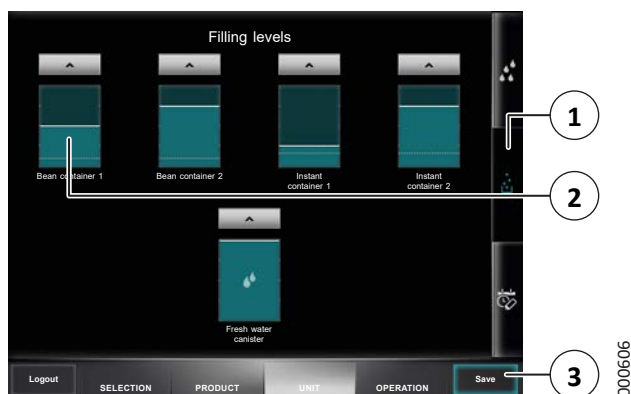

Fig. 32: Filling levels
4. The “Limit value” button (1) is used to set a percentage at which a warning is issued for the filling level.
5. Press the “Apply” button (3) to adopt the settings and return to the previous screen.
6. Save your changes using the “Save” button (3) (see Fig. 32).